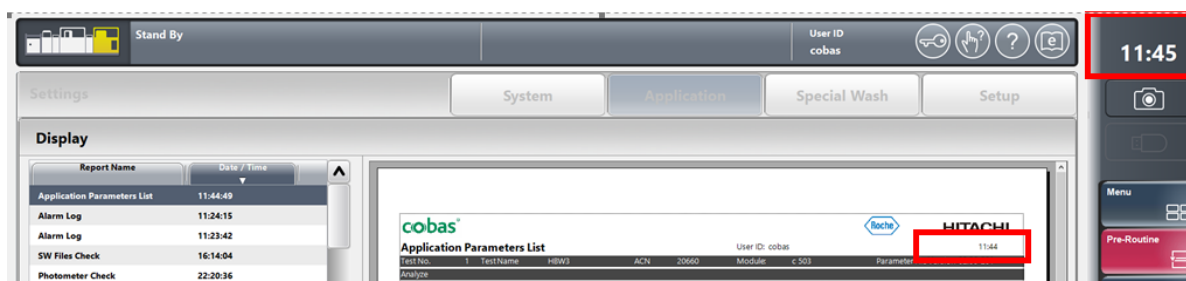

Figure 3: Date is not displayed in the red rectangles
3. The date is not displayed in the red rectangles shown in figure 3.
Check if the date is displayed in the red rectangles shown in figure 3 before you click on the start button or at minimum on a daily basis. Whenever the date is not displayed, the software limitation might have occurred on this instrument.